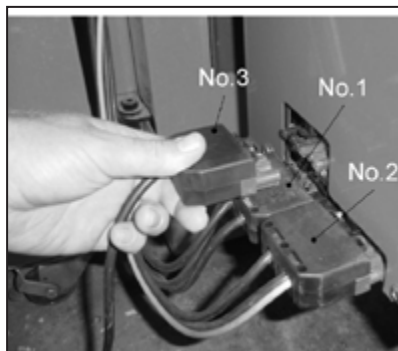

Figure 11-10: Burner plugs
- Disconnect the three plugs from the left side of the burner. Refer to Figure 11-10.
- Re-connect the three plugs to their corresponding sockets on the left side of the burner. Ensure that each plug is fully pushed home until the small catch clicks into place. Refer to Figure 11-10.